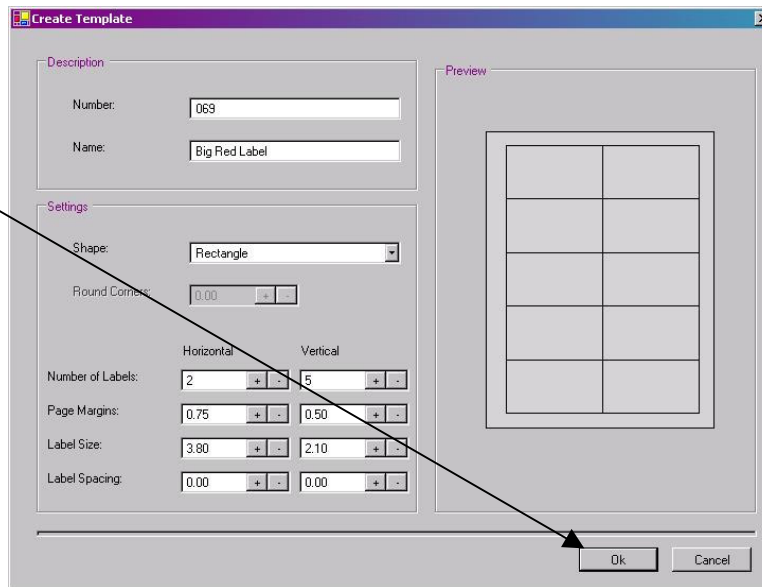

Figure 3.3.10: Create Template Creation
7. Click the ok button  once you have set the custom template up how you want it (see Figure 3.3.10).